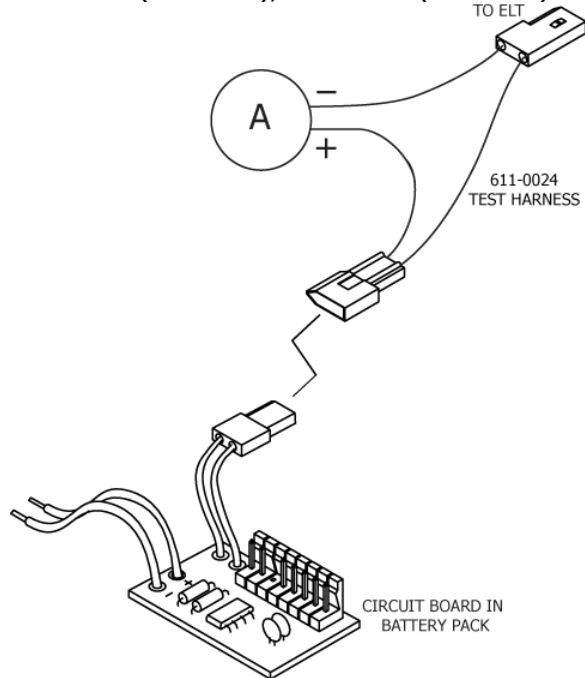

Figure 10 Current Draw Test Setup
- 4) Install test harness 611-0024, or equivalent, in the power circuit. See Figure 10.